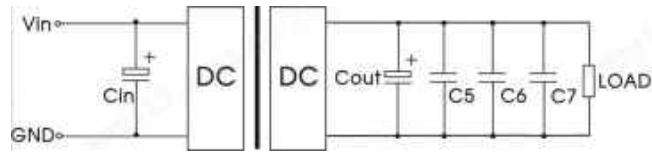

Fig. 2
^③③Under 0%-5%load conditions, ripple & noise does not exceed 5%V_o. By measuring method issued for Ripple and Noise test, please refer to Fig. 2. for recommended circuit.
All DC-DC converters of this series are tested before delivery using the recommended circuit shown in Fig. 2. Input and/or output ripple can be further reduced by appropriately increasing the input & output capacitor values C_{in} and C_{out} and/or by selecting capacitors with a low ESR (equivalent series resistance). Also make sure that the capacitance is not exceeding the specified max. capacitive load value of the product.
C12	Refer to the Cout in Fig.2
C13/C14	Refer to the C5, C6 in Fig.2